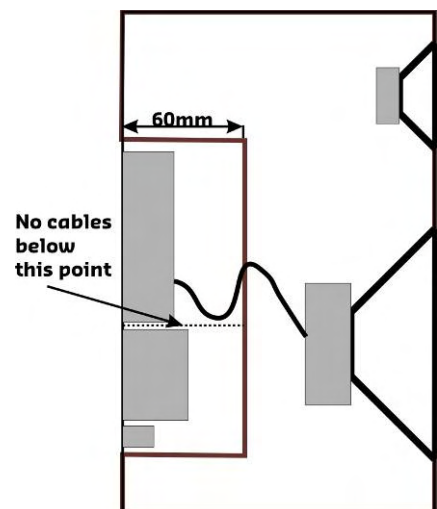

Figure 14
2. Keep at least 60mm between the module front plate and the back of the enclosure, see Figure 14.
3. Do not lead any single insulated speaker-cable below the indicated line in Figure 14. With double insulated cable you are allowed to lead the cables below this line.